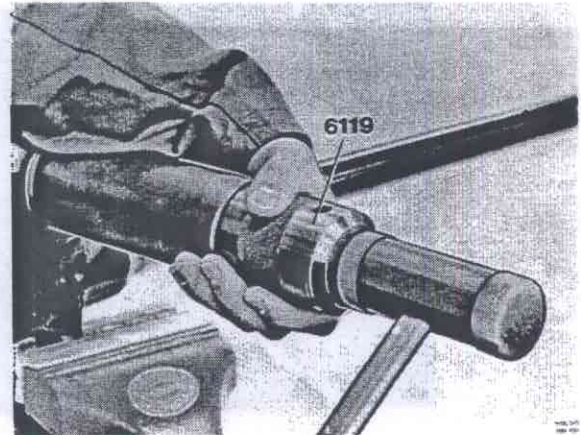

Fig. 64-23. Fitting the sealing ring
5. Knock in the sealing ring for the sector shaft with sleeve 6119, see Fig. 64-23.